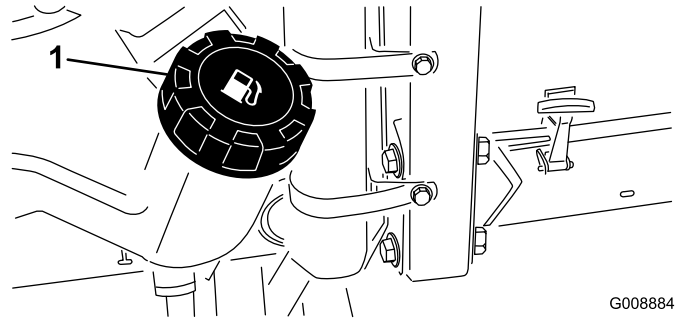

Figure 26
1. Clean the area around the fuel tank cap (Figure 26).